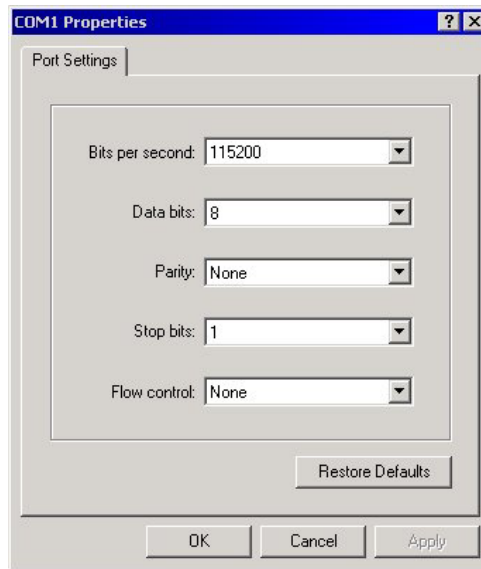

Figure 9: HyperTerminal's COM Properties Screen
3. Enter the parameters into the respective fields as shown in Figure 9.